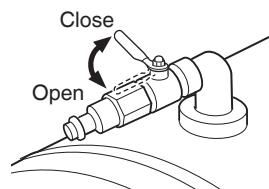

Fig. 6
- (1) Close the air cock. (Fig. 6)
- (2) Connect the compressor by connecting the air hose to the air filling male coupler of the tank.
- (3) Connect to the application by connecting the air hose to the tank's quick couplers.
- (4) Slowly open the air cock.